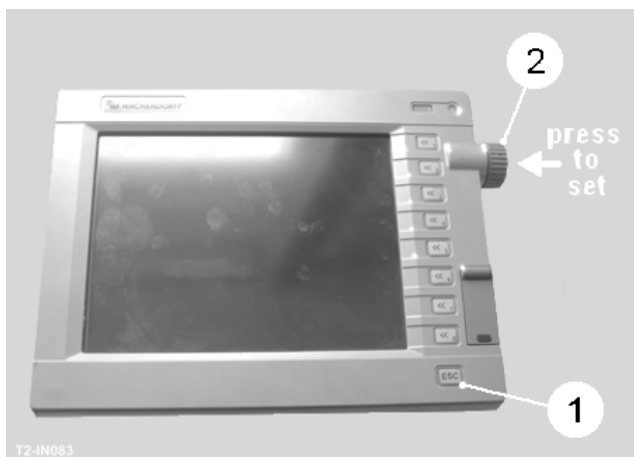

Fig 10
1. Press the (ESC) button once (item 1, fig 10).
Speed adjustment is available on all motor functions. With the machine running, the blue box adjacent to the button displays speed information received from the harvester sensor. The white box allows the operator to change this setting. To change the speed, select the white box (border will highlight red) and rotate the encoder dial (item 2, fig 10). Press the dial to save the setting (border will highlight black). The revised speed is now operational and will remain as the parameter setting until any further change is made.
Speed adjustment is available on all ram functions. To change the ram speed, select the white box (border will highlight red) and rotate the encoder dial (item 2, fig 10) between 0-100. Press the dial to save the setting (border will highlight black). The revised speed is now operational and will remain as the parameter setting until any further change is made.
4. Rotate the encoder dial (item 2, fig 10) until the blue box reads + 0. This sets the centre position on the RH steering sensor.
8. Rotate the encoder dial (item 2, fig 10) until the blue box reads + 0. This sets the centre position on the LH steering sensor.